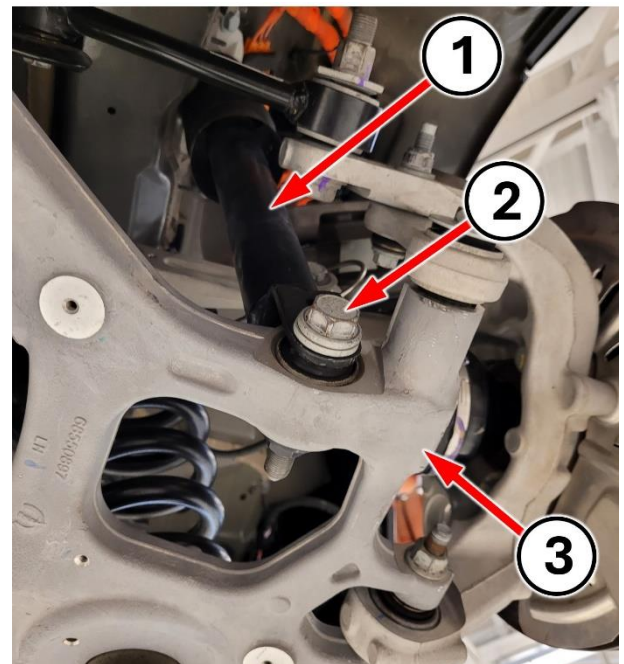

Figure 21 – Rear Shock Absorber
51. Both right side and left side: Remove the bolt securing the shock absorber lower ends to the lower control arms (Figure 21).